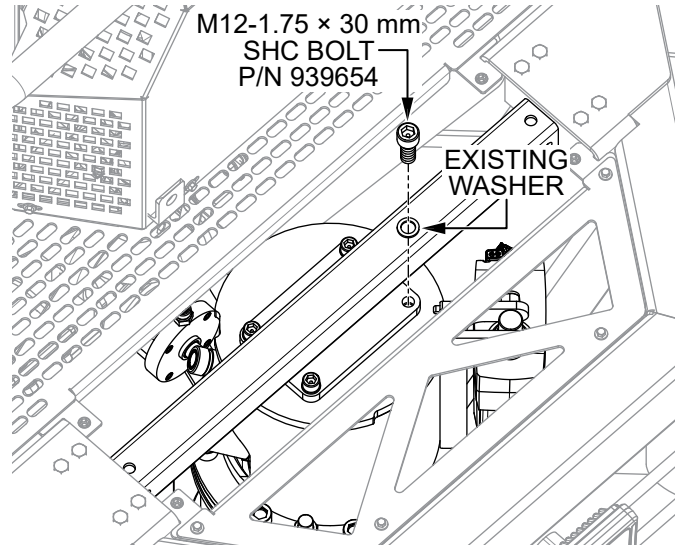

Figure 9. Install New Bolt with Existing Washer
- Install the new M12-1.75 × 30 mm SHC bolt (P/N 939654) and existing washer as shown in Figure 9. Torque to 40 lbf-ft.